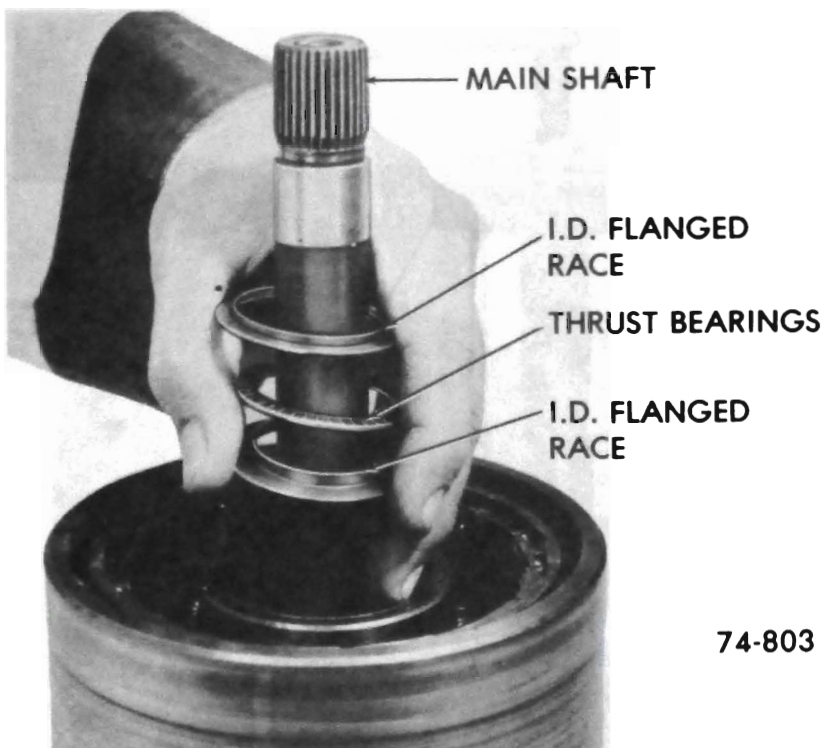

Figure 76-103
3. Remove center support to sun gear races and thrust bearing. One of races may have been removed with the center support. See Figure 76-103.